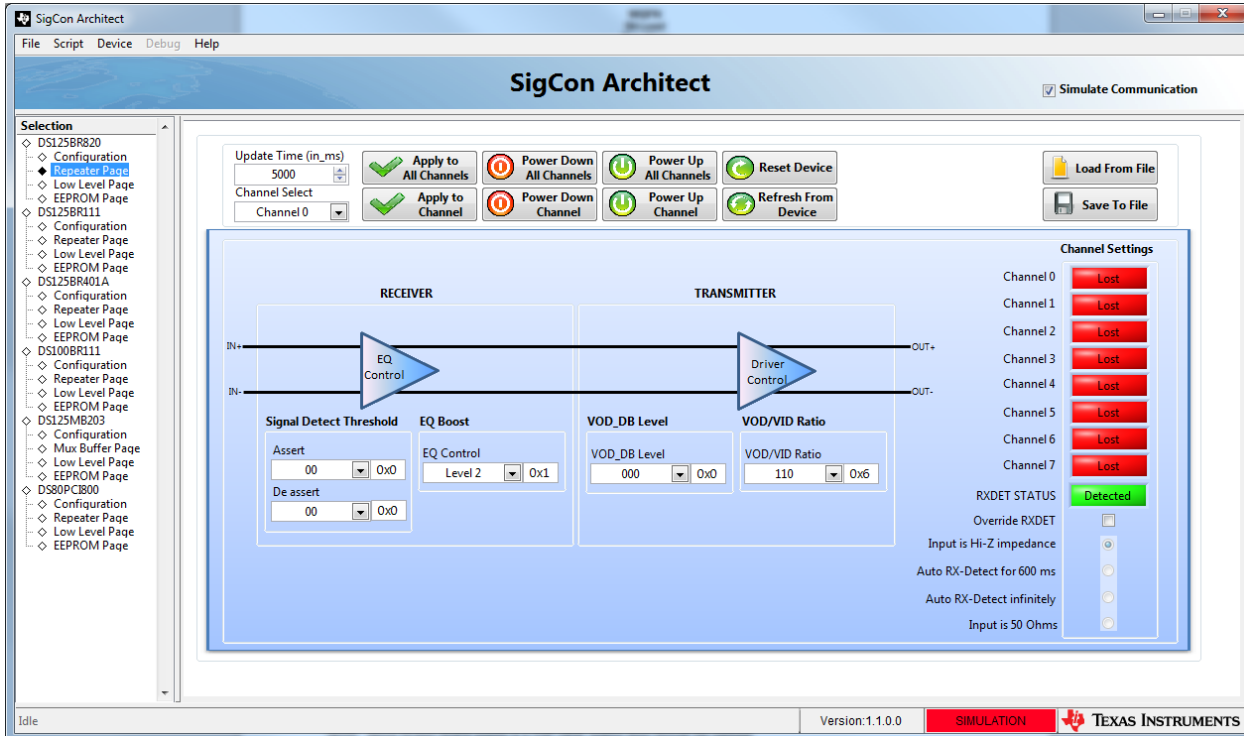

Figure 4: Example of TI SigCon Architect GUI, showing the recommended default configuration for EQ and VOD
1. Launch the TI SigCon Architect GUI to control the two DS125BR820 devices on the board. As shown in Table 1, the Repeater at address 0xB0 is responsible for all the Egress channels (top and bottom port), and the Repeater at address 0xB2 is responsible for all the ingress channels (top and bottom port). Figure 4 shows an example of the SigCon architect GUI with the recommended default configuration for EQ and VOD.